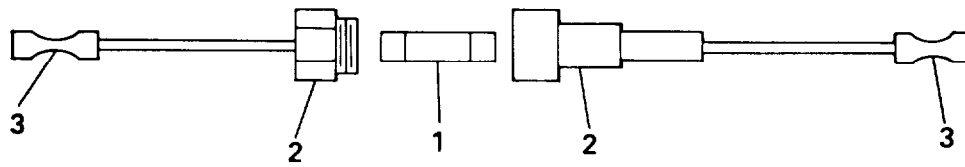
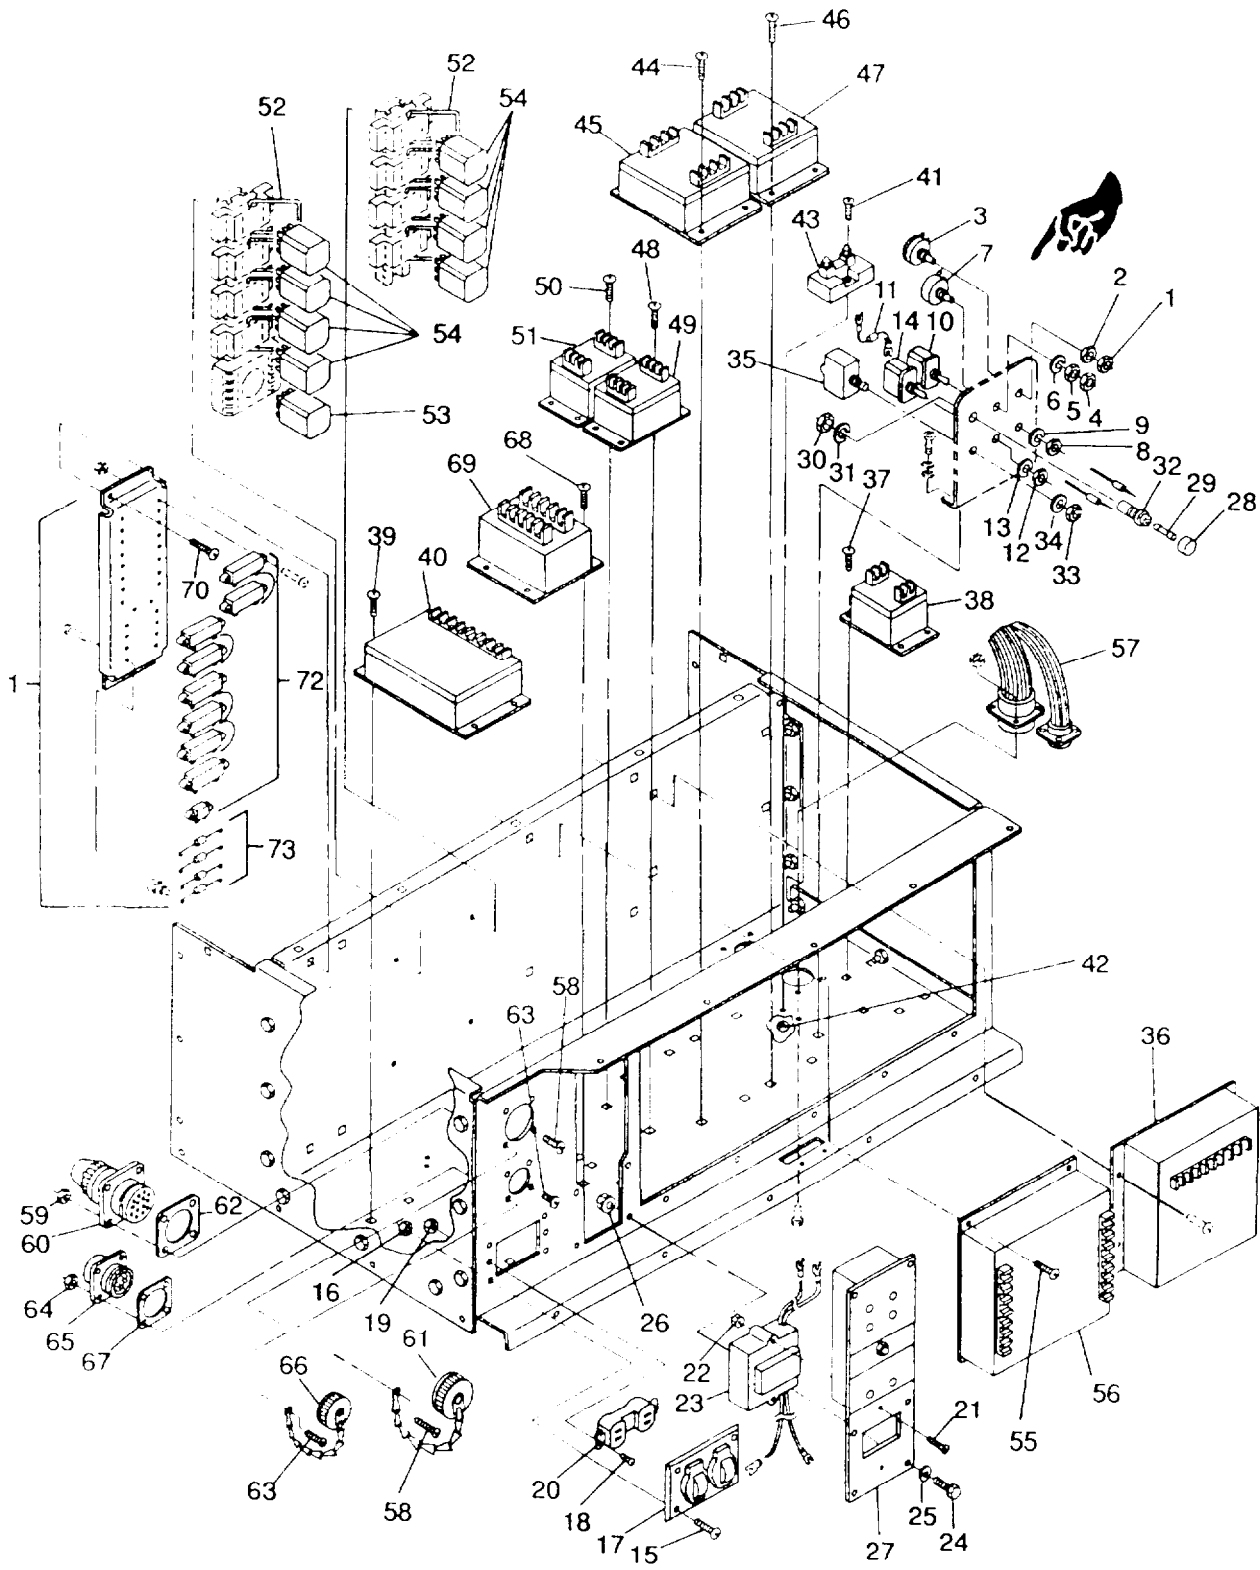

FIGURE 2-13.1. In-Line Fuse Installation
FIGURE 2-14. Control Box Components
- c. Remove malfunction indicator panel screws (24, FIGURE 2-14), washers (29), and nuts (26). Lay malfunction indicator panel to the side.
- d. Cut black wire on load side of GROUND FAULT CIRCUIT INTERRUPTER (23).
- e. Strip wires on in-line fuse holder (2, FIGURE 2-13.1) and install butt splices (3) at each end. Connect ends of black wire to in-line fuse holder butt splices (3).
- f. Install fuse (1) in fuse holder (2)
- h. Install malfunction indicator panel (27, FIGURE 2-14), screws (24), washers (25), and nuts (26)
- a. Install GROUND FAULT CIRCUIT INTERRUPTER (23, FIGURE 2-14) in malfunction indicator panel with screws (21) and nuts (22).
- b. Connect electrical leads to TB4 and KS, and convenience receptacle (20). Remove tags.
- e. Disconnect multi-pin connector at rear of malfunction indicator panel (27, FIGURE 2-14).
- f. Remove bolts (24), washers (25), and nuts (26).
- g. Remove malfunction indicator panel (27) from control panel.
- a. Install malfunction indicator panel (27, FIGURE 2-14) in control panel with bolts (24), washers (25), and nuts (26).
- d. Remove cap (28, FIGURE 2-14) and fuse (29) from fuse holder (32)
- e. Tag and unsolder electrical leads from fuse holder (32).
- f. Remove nut (30), lockwasher (31), and fuse holder (32).
- i. Connect electrical leads to circuit breaker (35) and remove tags.
- d. Remove nut (33, FIGURE 2-14) and flatwasher (34).
- e. Remove DC CONTROL POWER circuit breaker (35) from mounting bracket.
- f. Tag and disconnect DC CONTROL POWER circuit breaker (35) electrical leads.
- b. Insert DC CONTROL POWER circuit breaker (35, FIGURE 2-14) into mounting bracket.
- c. Install flatwasher (34) and nut (33).
Inspect AC voltage regulator (36, FIGURE 2-14) for cracked case, broken wires, security, and other damage.
- d. Tag and disconnect frequency transducer (38, FIGURE 2-14) electrical leads.
- e. Remove screws (37) and frequency transducer (38).
- a. Install frequency transducer (38, FIGURE 2-14) with screws (37).
- d. Tag and disconnect kilowatt transducer (40, FIGURE 2-14) electrical leads.
- e. Remove screws (39) and kilowatt transducer (40).
- a. Install kilowatt transducer (40, FIGURE 2-14) with screws (39).
- c. Tag and disconnect shunt (43, FIGURE 2-14) electrical leads.
- f. If no repair is needed, connect electrical leads to shunt (43) and remove tags.
- e. Tag and disconnect shunt (43, FIGURE 2-14) electrical leads.